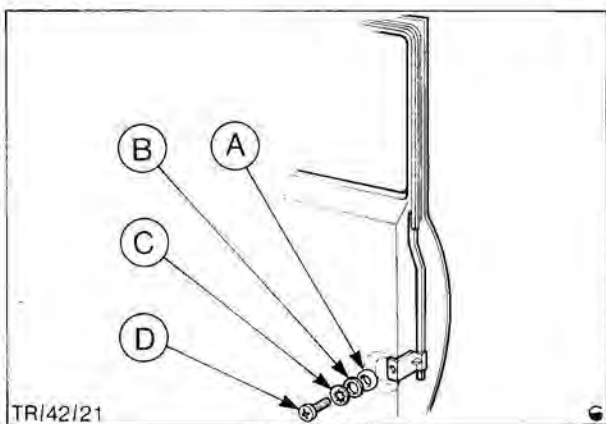

Fig. 17. Door glass run and retainer assembly to door inner panel
- Align retainer into position on door inner panel and secure with screw, lock, flat and fibre washer assembly, Fig. 17. Slide retainer towards door lock before finally tightening screw.